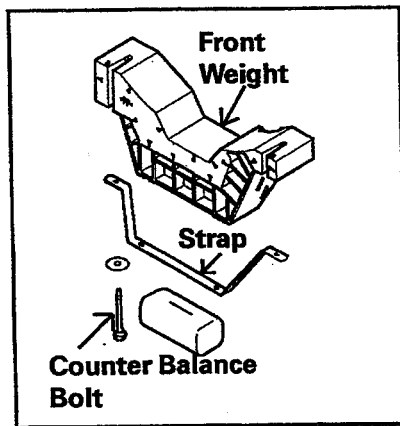

Figure 2-52
2. Remove the two bolts securing the weight to the outer tub assembly. Use a 9/16" socket (*Figure 2-52*).